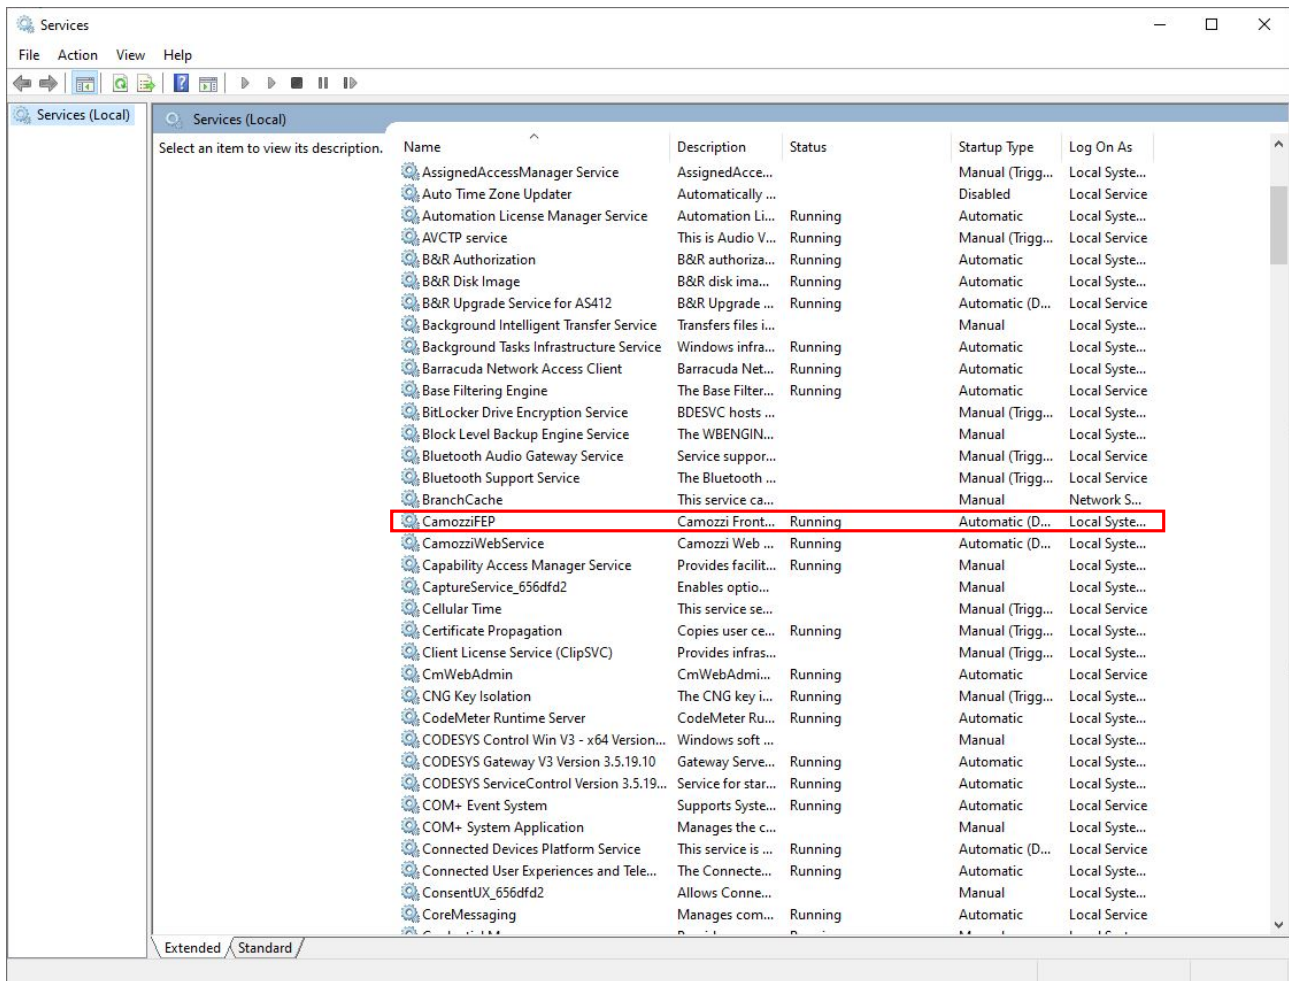

Figure 8.4: CamozziFEP Service
6. Access the services window and verify that the "CamoZZiFEP" status is running (Figure 8.4).
- ❸ If the connection in the "Tcp Connections" section is not visible, access the services window and verify that the "CamozziFEP" status is running (Figure 8.4).
2 FEP: If the connection is not present, access the services window and verify that the "CamoZZiFEP" status is running (Figure 8.4).